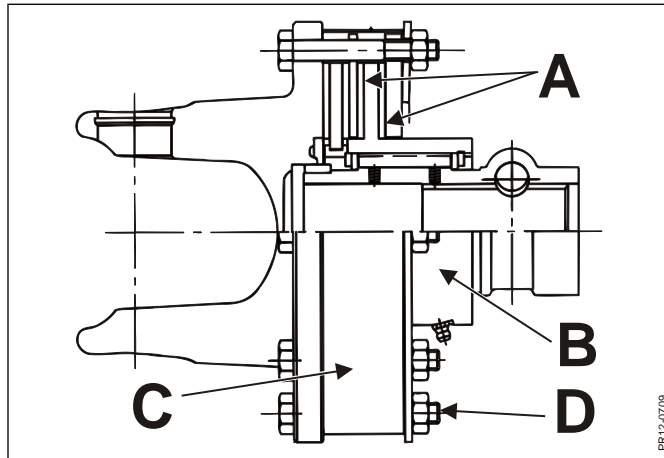

Fig. 6-4
- Fig. 6-4**
Fig. 6-4 IMPORTANT: The outer metal band **C** indicates whether the tightening of the springs is correct. Tighten the bolts **D** just so much that the metal band **C** can be turned (max. 0.5 mm play). The torque setting is not correct if the metal band is too tight or deformed due to excessive tightening of the bolts.